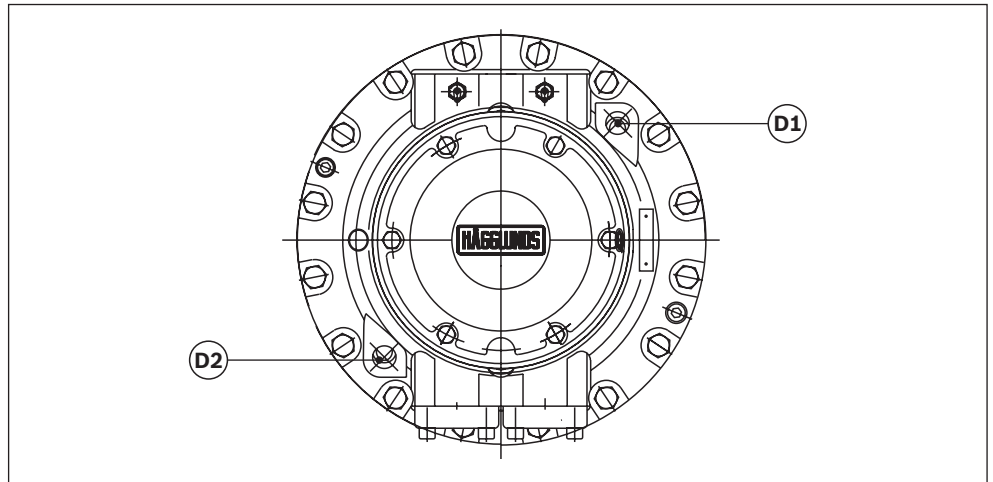

Fig. 4.1
Place the motor as shown in figure 4.1, fill the motor with filtered oil in the following order: D1, A1, B, C1. See 2.3, "Filtration".
3. If it is not possible to turn the motor, plug all connections, open drain outlet D1 or D2 on the port end housing (or if the motor is mounted vertically, flushing connection F1 on the shaft end housing) and fill the motor with hydraulic fluid. (See figure 4.1 and 4.1a).